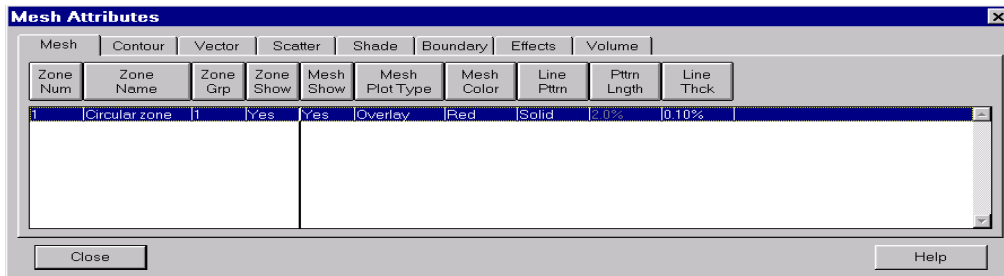

Figure 9-7. The Mesh Attributes dialog.
1. Call up the appropriate Attributes dialog via the Field menu or the Details button on the sidebar whenever it is labeled Plot Attributes (the Plot Attributes label appears when no objects are selected and the current mouse mode is either Selector or Adjustor). The Mesh Attributes dialog is shown in Figure 9-7.